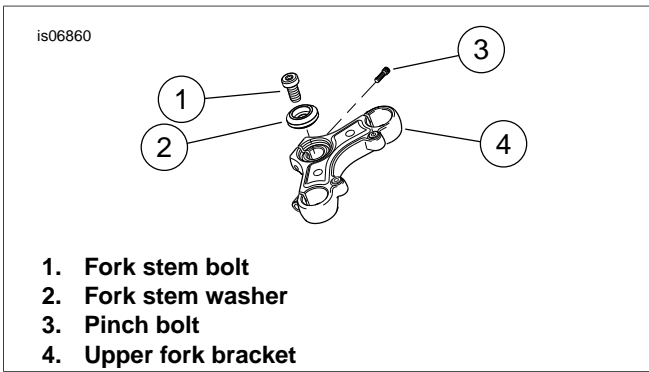

Figure 1. Fork Stem Bolt and Fork Stem Washer
1. See the service manual and remove the main fuse, original equipment (OE) handlebar, clutch and throttle/idle cables and front brake lines.
2. See Figure 1. Loosen pinch bolt (3).
3. Remove fork stem bolt (1) and fork stem washer (2) from the upper fork bracket (4).
1. See Figure 1. Install new fork stem bolt (1) and fork stem washer (2) from the handlebar kit to the upper fork bracket (4). The fork stem washer is installed with the engraved face up.